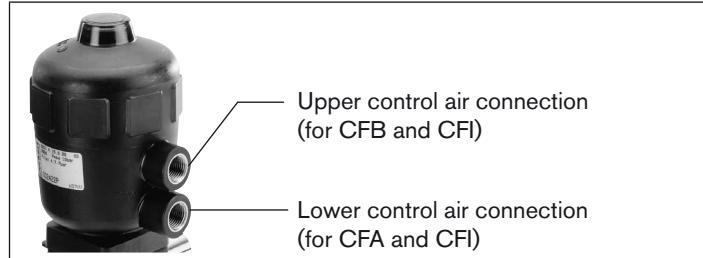

Fig. 31: Control air connection
- Pressurize lower control air connection with compressed air (value as indicated on the rating plate) (see picture below Fig. 31:Control air connection). This is required to detach the diaphragm without damage from the housing.
- Pressurize upper control air connection with compressed air (value as indicated on the rating plate) (see *Fig. 31:Control air connection*).